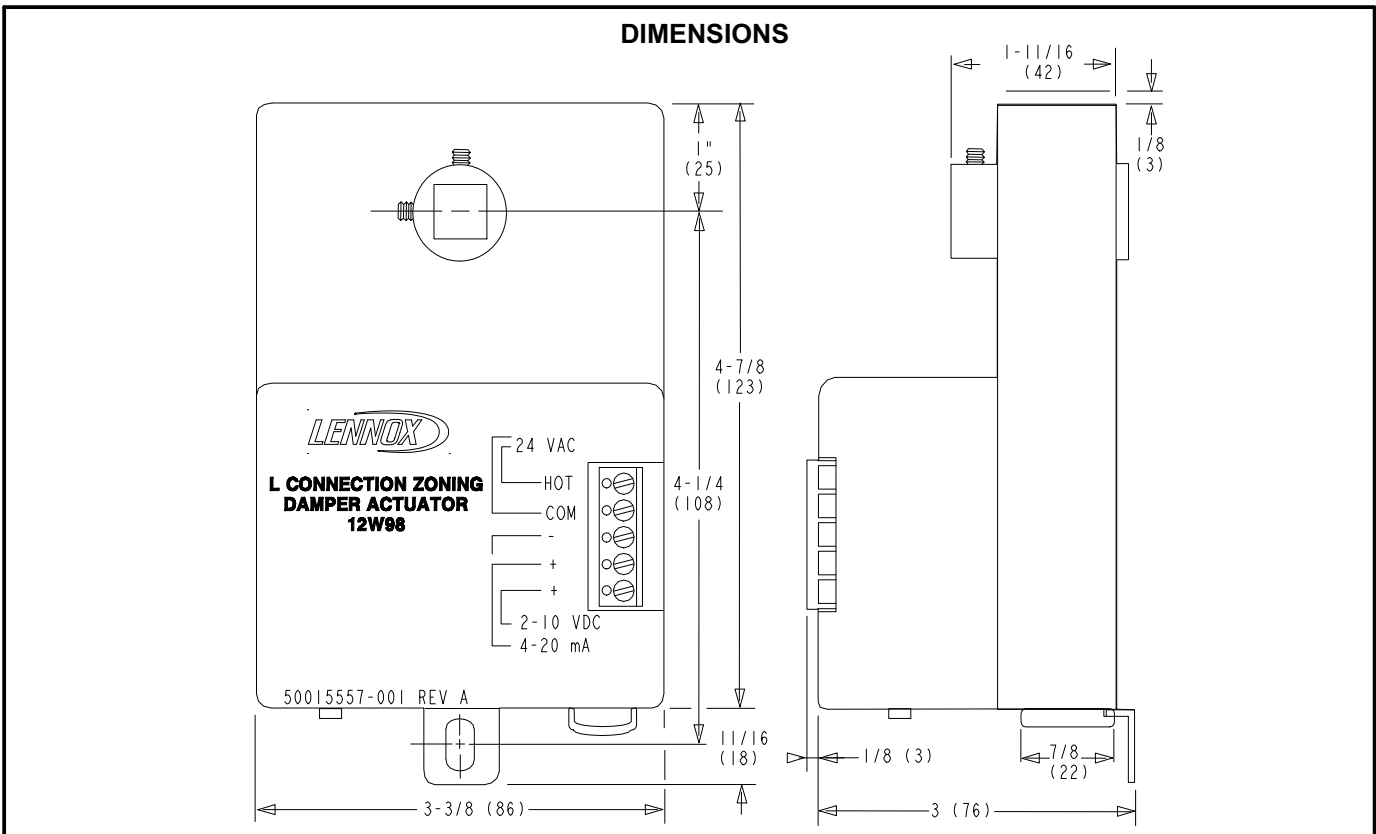

FIGURE 2
- 1- Install the actuator in a location that allows clearance for servicing. See dimensions in figure 2.